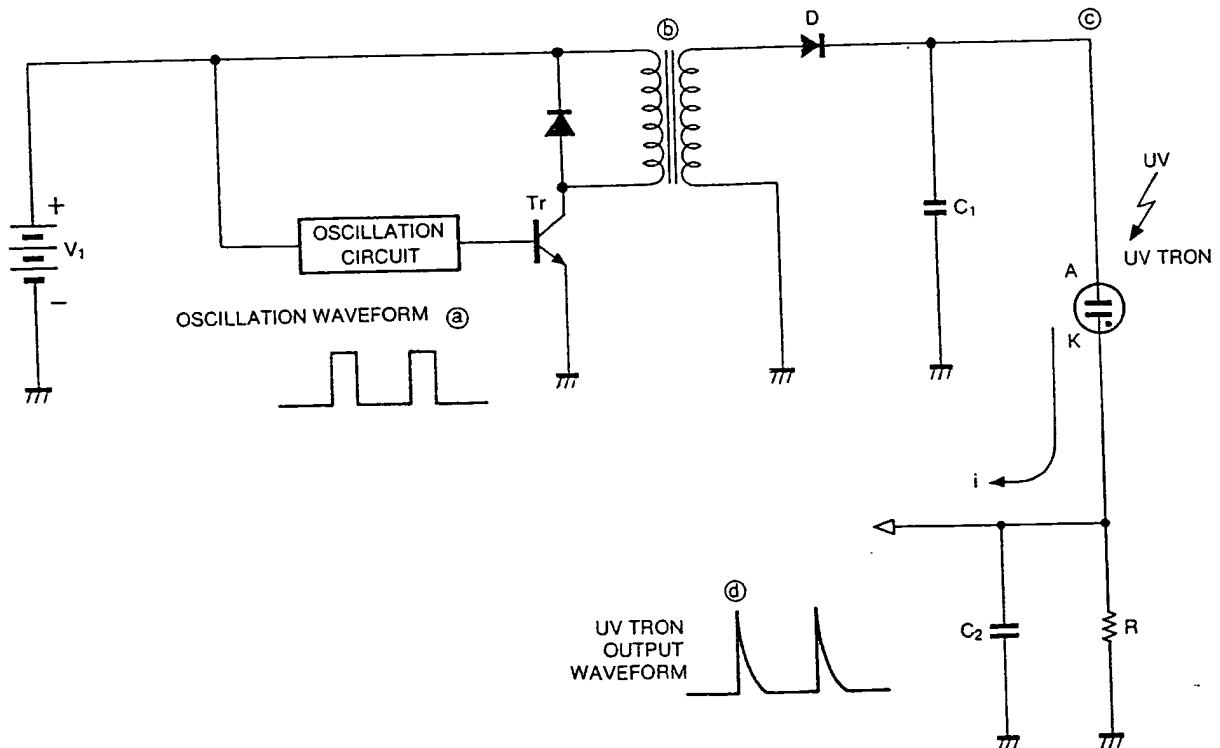
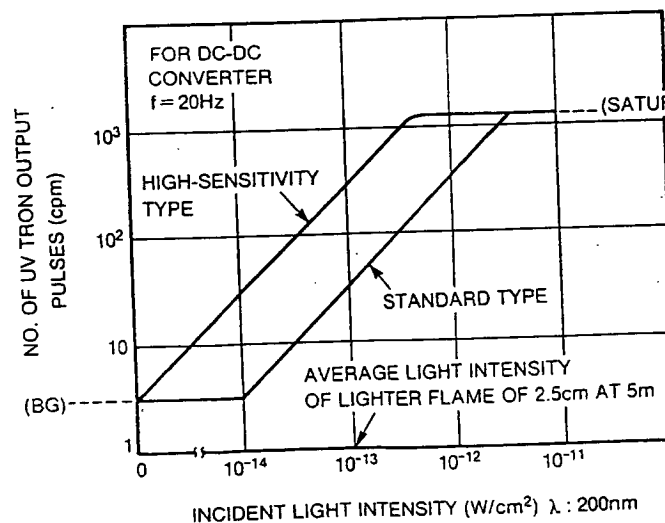
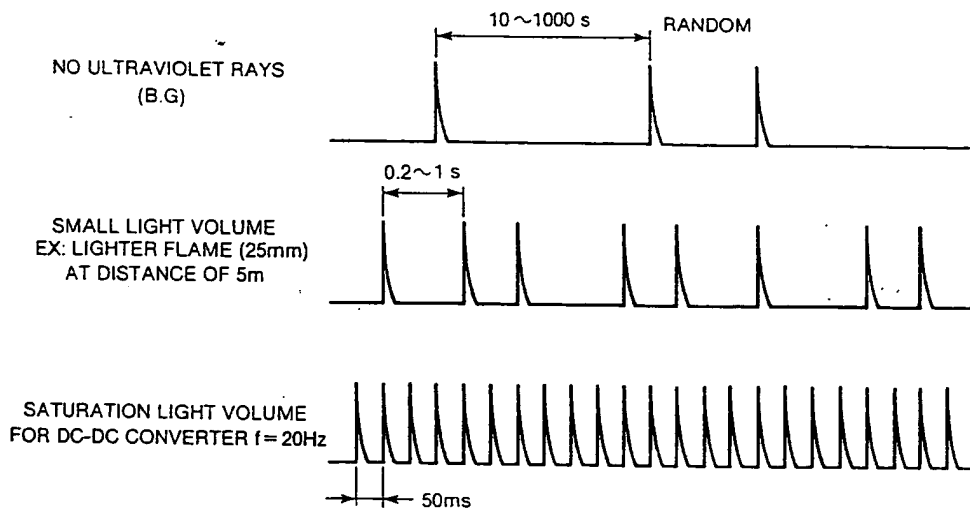

Figure 4a: UV TRON Drive Circuit
Figure 5: Sensitivity and Background of the UV TRON
Figure 6: UV TRON Output Pulse
When the UV TRON is operated with the circuit shown in Fig. 4a, the number of output pulses is increased in proportion to the intensity of incident light but there is saturation at the converter's oscillation frequency  $f$ . Fig. 5 and 6 shows this state. The UV TRON is better for on-off signalling than for precise light measurement of light volumes. The next point that must be noted is the background noise (BG). What "background noise" means is that even if the UV TRON receives no ultraviolet radiation, there is sporadic discharge due to such factors as cosmic radiation and static electricity. Fig. 6 also shows this. When detecting ultraviolet radiation with the UV TRON, if the output pulses are used directly as the detection signals, the background noise will cause mistaken operation. Therefore, the signal must be processed to cancel out this background noise.